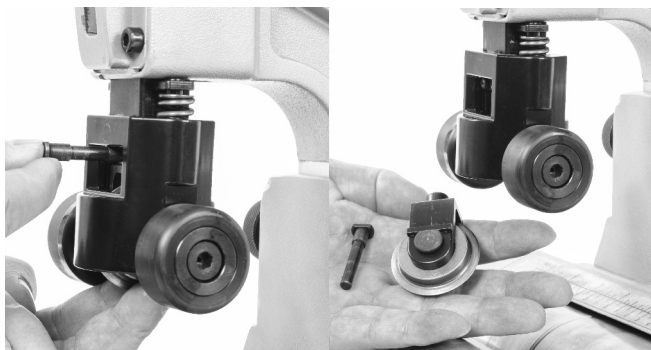

Figure 14 – Removing Wheel Holder
1. Remove the link pin from slide, the wheel holder will drop free (*Figure 14*).